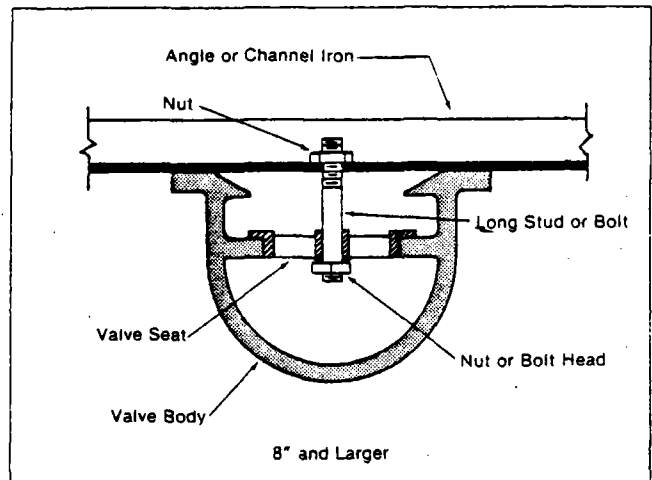

FIGURE 5
5. After the stem nut has been removed, the diaphragm assembly breaks down into its component parts quite easily. Removal of the disc from the disc retainer can be a problem if the valve has been in service for a long time. Using two screwdrivers inserted along the outside edge of the disc usually will accomplish its removal. Care should be taken to preserve the space washers (18) particularly if no new ones are available for reassembly.
6. The only part left in the valve is the seat ring which ordinarily does not require removal. If, however, it is badly worn and replacement is necessary, it can be removed. For 6" and smaller valves obtain a seat driver X109 from the factory. On 8" and larger valves, the seat is held in place by a number of flat head screws. After the screws have been removed, the seat can be loosened from the body quite easily using a piece of angle or channel iron with a hole drilled in the center. Place it across the body so a long bolt or stud can be inserted through the center hole in the seat and the hole in the angle iron. By tightening a nut an upward force is exerted on the seat. See Figure 5.